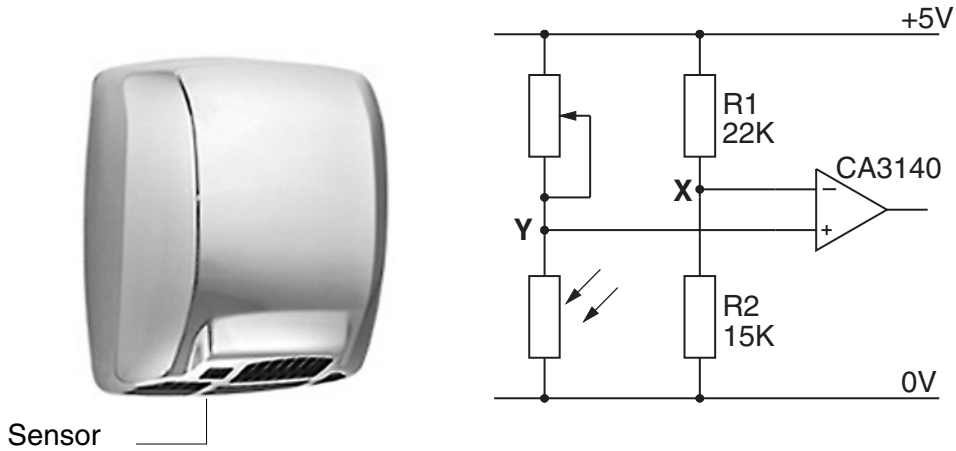

Fig. 9
- 3 (a) Fig. 9 shows a hot air hand drier with the sensor circuit that controls it. The drier starts when the sensor is shaded by a hand being placed under the base of the drier.